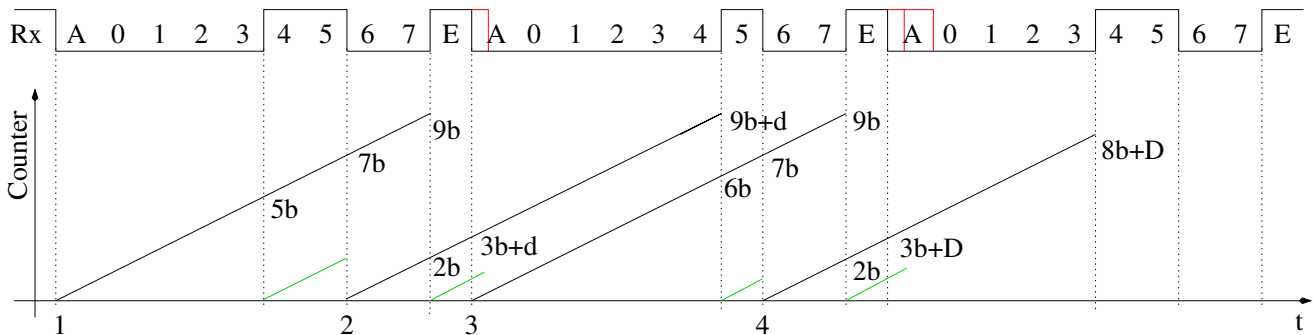

Figure 3.6. Possibel timer measurements for the STK_GET_SYNC sequence
If you specify a baud rate below $100Baud$ for generating the bootloader code, the program will be prepared to detect the baud rate from the first received character. At the begin if the transmission with the STK500 protocol the computer send a command STK_GET_SYNC (0x30) followed by the control character CRC_EOP (0x20). For the serial transmission protocol the High level (1) is defined as the idle state. The begin of a transmission is started by s start bit with Low level (0). Directly after the end of the start bit the first data bit is send beginning with the low order bit. After the last of the agreed count of bits (8) is transmitted, the transmission is finished with one or more Stop bits at High level (1). The level of every bit is hold exactly the agreed baud time. The time between the end of the last Stop bit and the begin of the next Start bit is unspecified. The figure 3.6 shows the expected results for all possible time measurement. At the time axis "t" four possible start positions are marked for a complete time measurement of the assumed character. The counter
is started in each case of a detected 1-0 slope. The right start position for the STK_GET_SYNC character is marked with "1". The marks "2", "3" and "4" show the situation for three possible wrong Start bit detections. For the mark "2" and "4" a 1-0 slope of data bits is detected as Start bit in a wrong way. For the mark '3' is a Start bit correctly detected, but for the wrong character (CRC_EOP). The wrong detections are allways possible, if the bootloader is started not before the transmission was running. The expected counter values are marked at the counter level graph for all four start positions in figure 3.6. The "b" means the counter reading for one bit transmission time (baud time), the "d" stand for a possible time delay between the end of the Stop bit transfer and the start of a new Start bit. The "D" represents a expected long time delay to the begin of the next message. The transmit sequence of the message has reached it's end and the computer wait for an answer of the AVR. In the "Rx"-row the data bits are labled with "0" (least significant bit) to "7" (highest significant bit). The Start bit has the label 'A' and a Stop bit has the label 'E'. The first byte is the coding of the STK_GET_SYNC character and the second byte is the coding of the control character CRC_EOP.